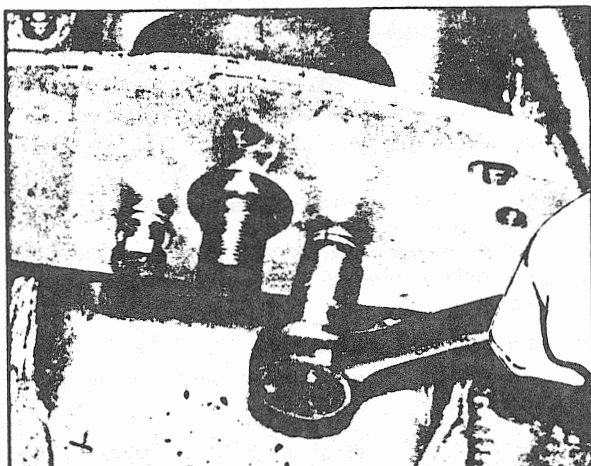

FIGURE 29
- Securely attach the rear mount bracket to the suction piece. At this time the bearing cap will apply pressure on the bearing forcing it into the housing. **The cap must be protruding from the housing only a few thousandths of an inch. Tighten the capscrews equally (fig. 29).**